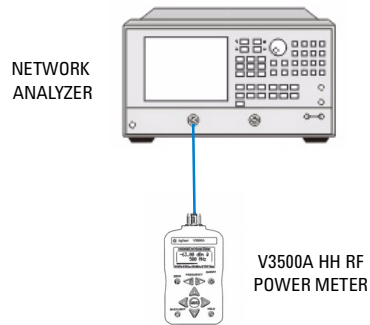

Figure 3-2 UUT connected to Port 1 of the VNA
- 8 Connect the unit under test (UUT) directly to Port 1 of VNA as shown in Figure 3-2 on page 17.